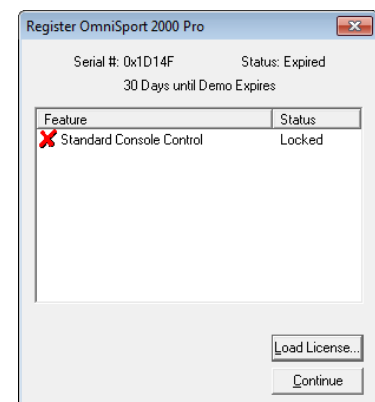

Figure 2: Registration Window
1. On the *Register OmniSport 2000 Pro* window (*Figure 2*), make a note of the *Serial #*. Email the *Serial #* to sportsoftware@daktronics.com with the subject line “Pro Swimming License”. Be sure to also include the name of your organization, facility name, and/or contract number for the fastest response. Upon proof of purchase, Daktronics will email a software license file.